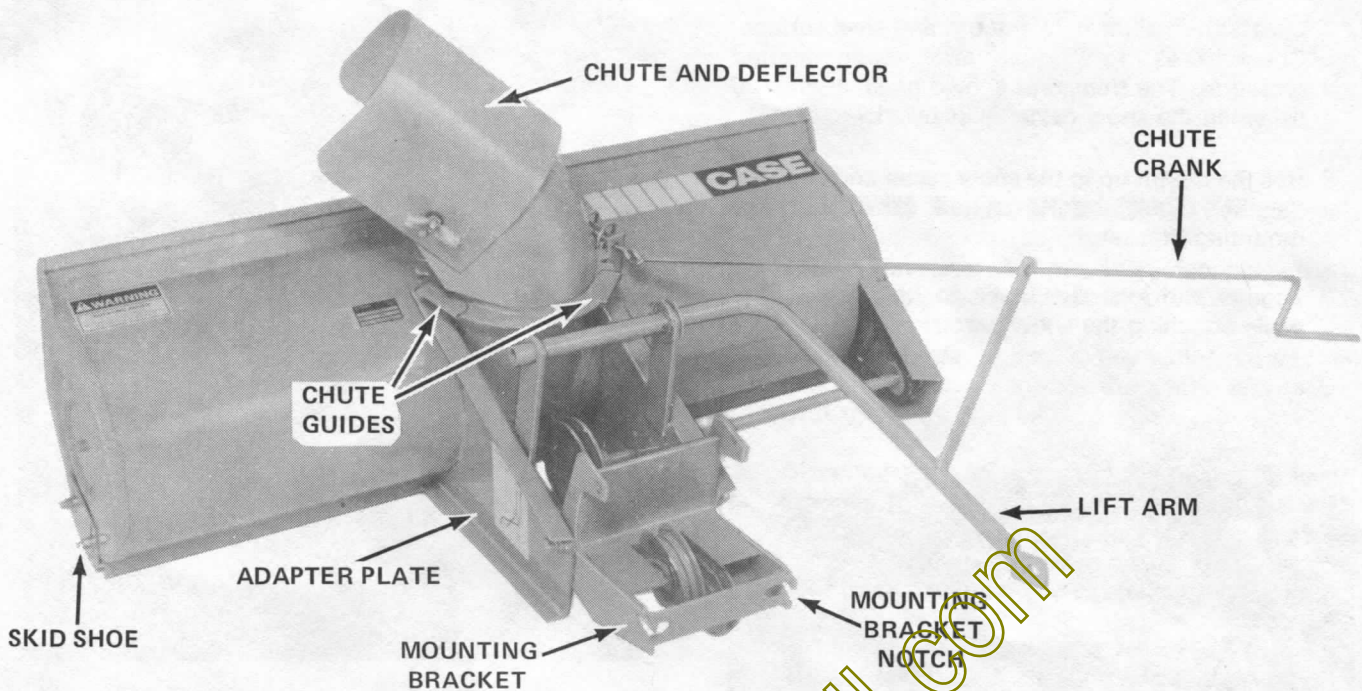

FIGURE 7 Model N84 Snow Caster (Assembled)
2. Position the mounting bracket between the auger housing adapter plates as shown in Figure 7.